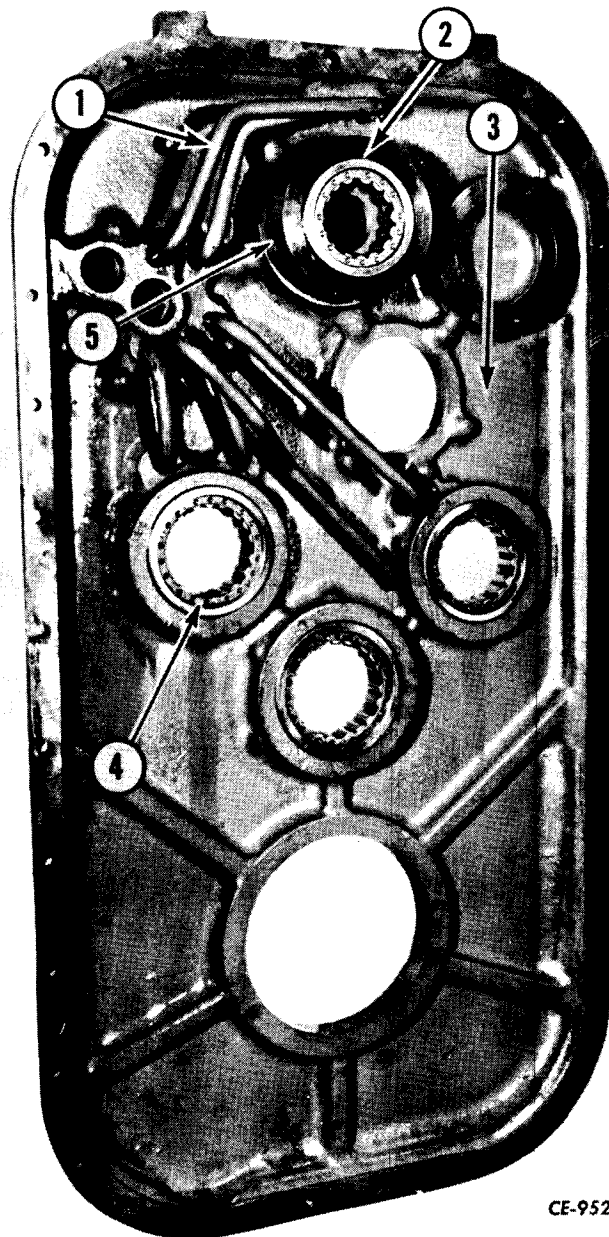

Figure 4-45
Remove bearings (4, Fig. 4-45) from open bearing bores in front cover (3) with a suitable drift or hardwood block if replacement is required.